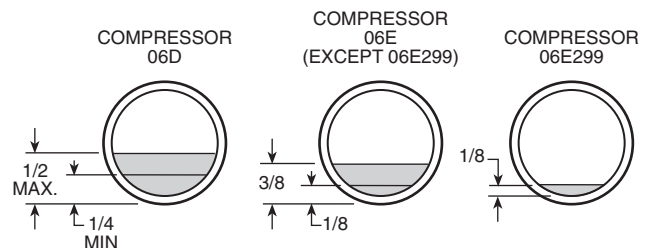

Fig. 108 — Operating Oil Levels (Sight Glass)
8. Oil should be visible in the compressor sight glasses. See Fig. 108. All units are factory charged with oil. Adjust the oil level as required. No oil should be removed unless the crankcase heater has been energized for at least 24 hours. Oil Charge section on page 152 for Carrier-approved oils.
Compressor Oil — Check that compressor oil is visible in the sight glass of the compressor. All units are factory charged with oil. Observe oil level closely at start-up. If oil level is below the sight glass and cannot be seen, add oil until the level is approximately as shown in Fig. 108. See Oil Charge section on page 152 for information on adding or removing oil.